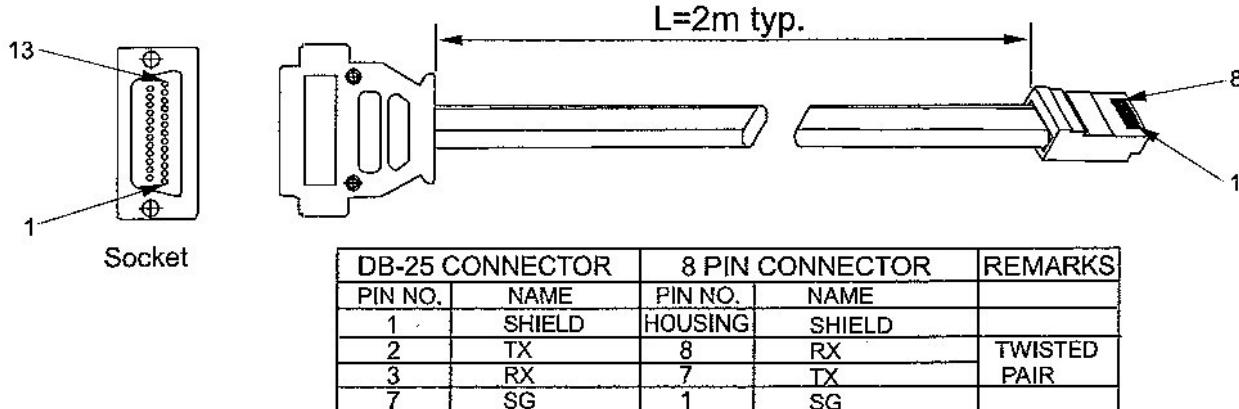

Figure 7-2: RS-232 Cable with DB25 Connector (P/N:GEN/232-25)
- Connect the rear panel J3-IN connector to the controller RS-232 or RS-485 port using a suitable shielded cable. Refer to Figures 7-2, 7-3 and 7-4 for available RS-232 and RS-485 cables.